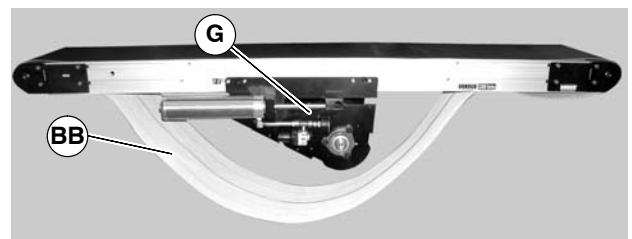

Figure 28
11. Remove belt (BB of Figure 28) from center drive module (B) and conveyor.